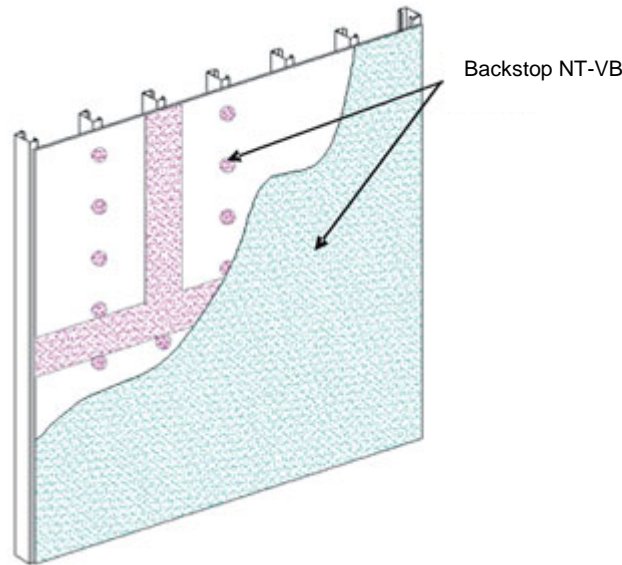

Figure 2
- 3) Apply a second pass in the same manner as the first. If the material on the wall pulls away or drags, it should be allowed to dry for a longer period until the second pass may be applied without disturbing the first layer. Figure 2.